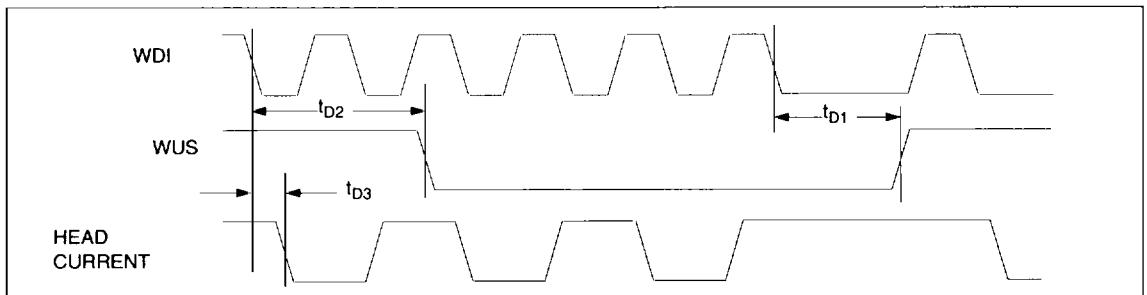

Figure 1: Write Mode Timing Diagram
**SWITCHING CHARACTERISTICS** Recommended operating conditions apply unless otherwise specified;  $I_W = 20\text{mA}$ ,  $f_{\text{DATA}} = 5\text{MHz}$ ,  $L_H = 1\mu\text{H}$ ,  $R_H = 30\Omega$ ,  $C_L (\text{RDX, RDY}) \leq 20\text{pF}$  (see Figure 1).